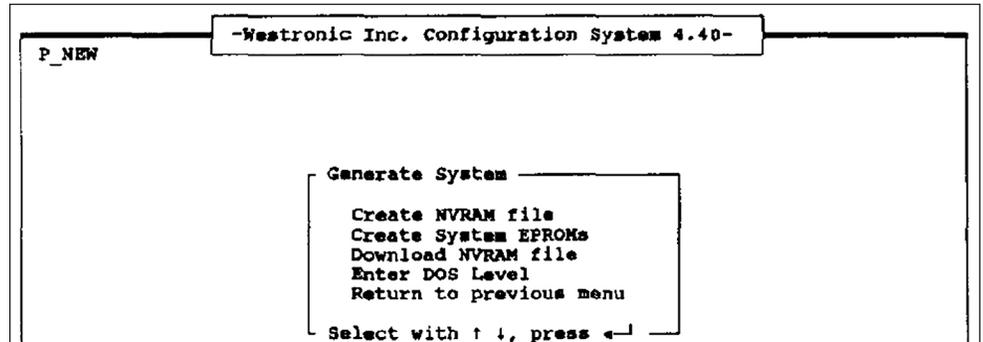

Figure 19. The *Generate System Menu* screen.
STEP 14. Press the <ENTER> key. The *Generate System* screen will open. See Figure 19 on page 17.